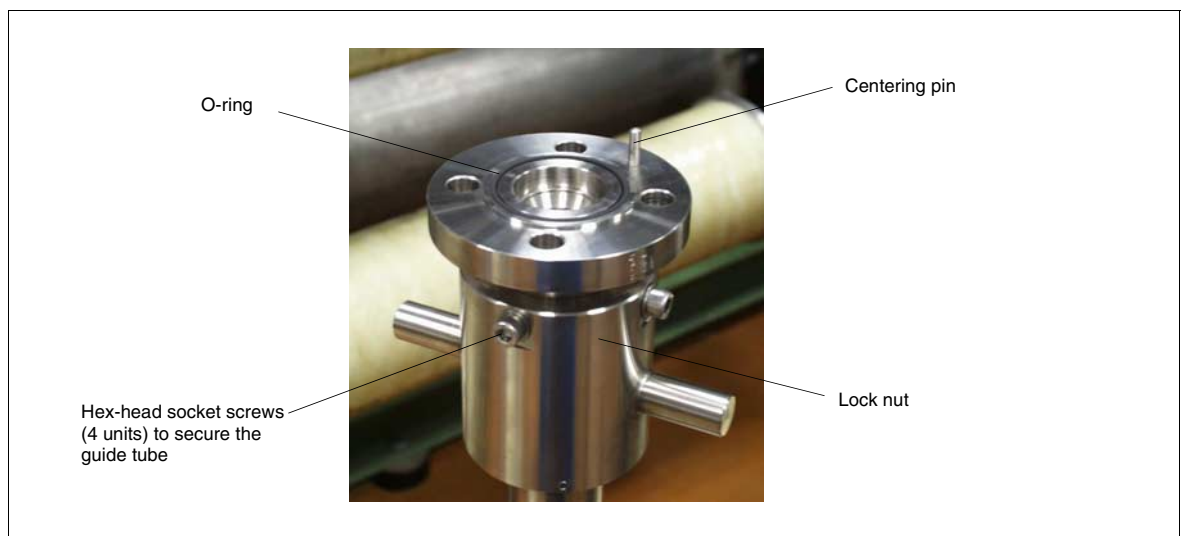

Fig. 4-8
- Place the supplied O-ring (55 mm x 3 mm [2,17 x 0,12"]) in the appropriate groove (Fig. 4-8). The O-ring gasket and screws are included in the delivery scope.
- To disassemble the guide tube, release the 4 hex-head screws on the lock nut (Fig. 4-8) and remove the guide tube. Clean parts, if necessary.